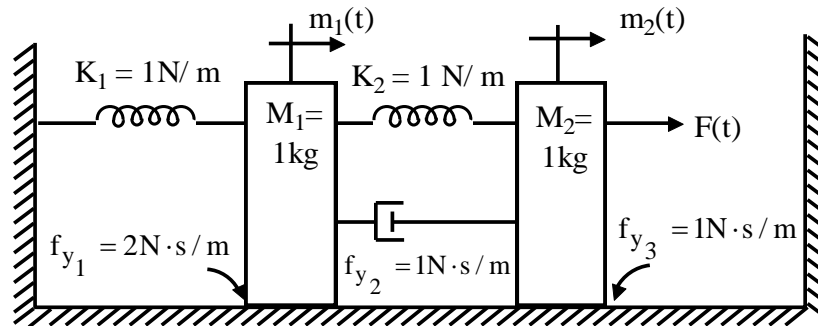

Fig. 1. b
- b) Determine transfer function $\frac{X_1(s)}{F(s)}$ of translational mechanical system show in fig. 1 (b). 8